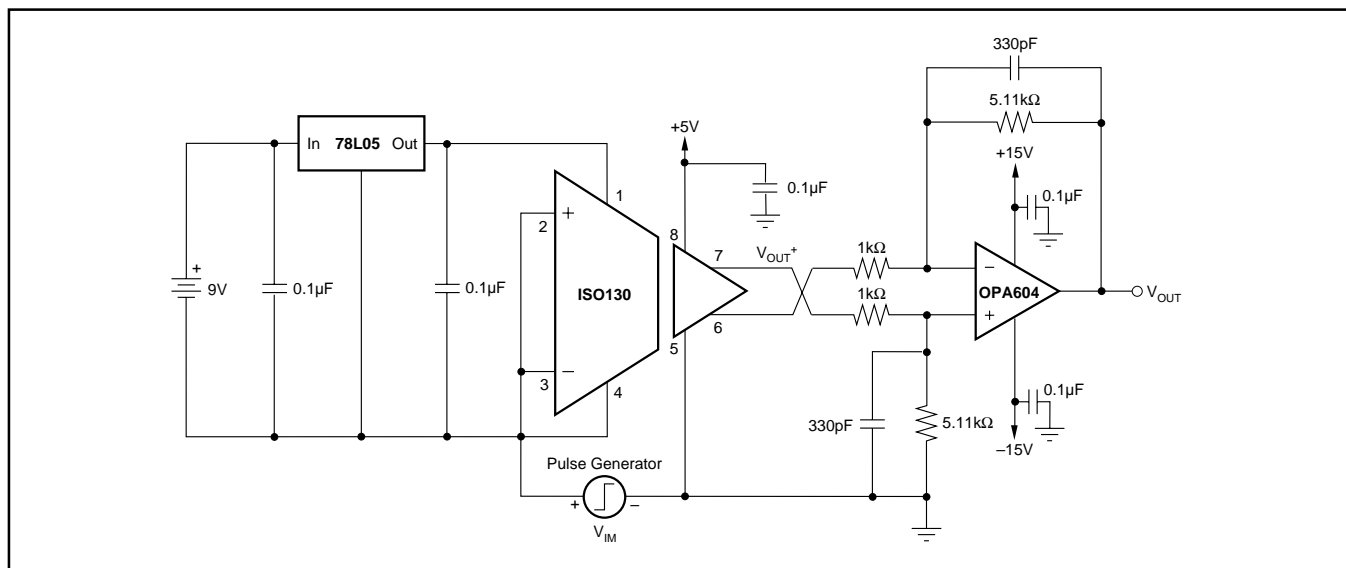

FIGURE 2. Isolation Mode Rejection and Transient Immunity Test Circuit.
The third guaranteed isolation specification for the ISO130 is Transient Immunity (TI), which specifies the minimum rate of rise or fall of an isolation mode noise signal at which small output perturbations begin to occur. An isolation mode signal is defined as a signal appearing between the isolated grounds, GND_1 and GND_2 . Isolation Mode Voltage (IMV) is the voltage appearing between isolated grounds. Under certain circumstances this voltage across the isolation barrier can induce errors at the output of the isolation amplifier. Figure 2 shows the Transient Immunity Test Circuit for the ISO130. In this test circuit a pulse generator is placed between the isolated grounds (GND_1 and GND_2). The inputs of the ISO130 are both tied to GND_1 . A difference amplifier is used